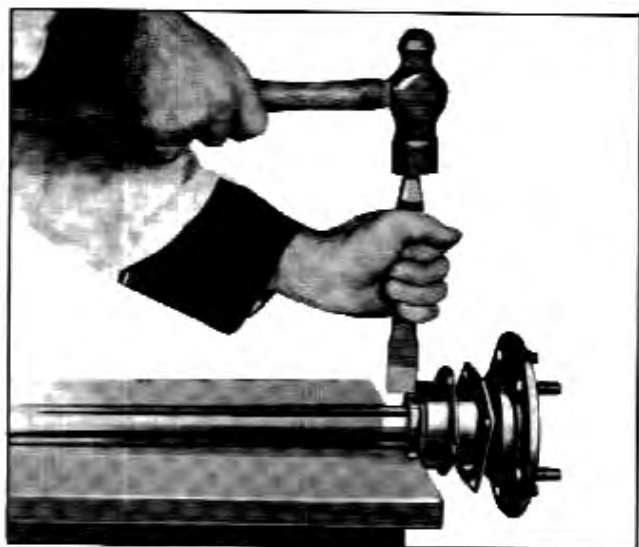

Fig. 4-8 Splitting Bearing Retainer Ring
2. Remove bearing inner retainer ring by carefully cutting it with a cold chisel as shown in (Fig. 4-8). Do not cut into shaft with chisel. It is not necessary to cut entirely through retainer. If a new bearing is to be installed, unserviceable bearing and retainer may be pressed off shaft together. This must not be done if bearing is to be used again because of danger of brinelling bearing.